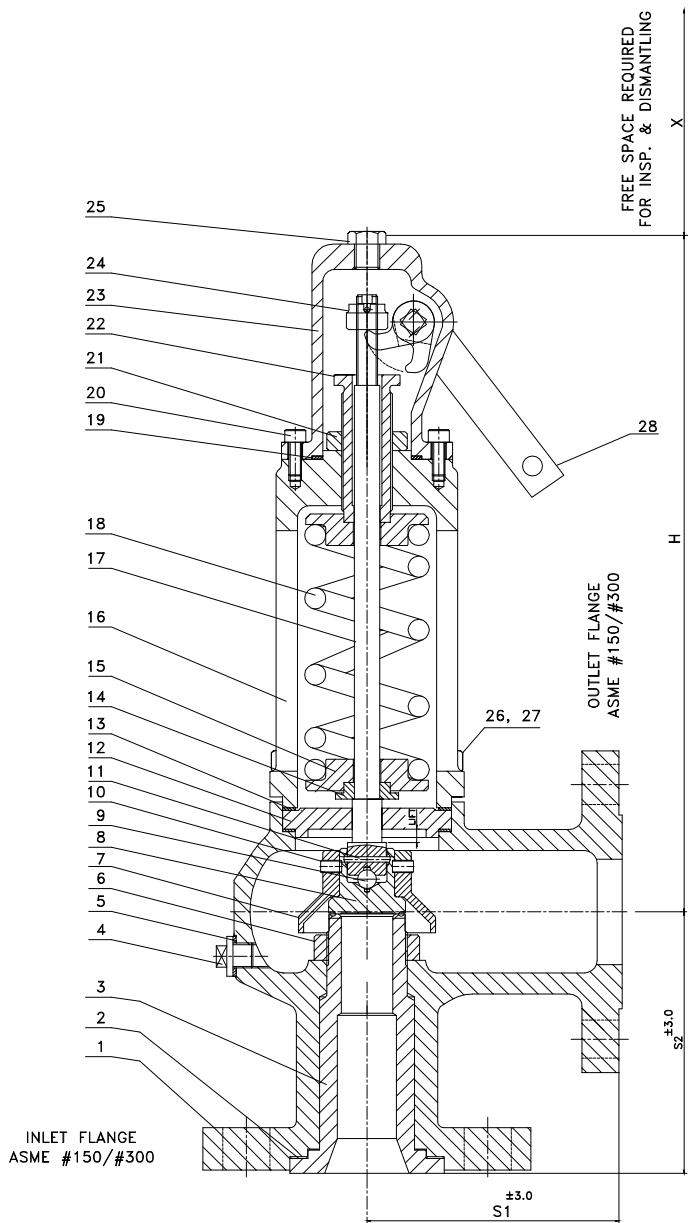

Figure 1: Forbes Marshall Full Lift Safety Valve
Dimensions: (approx.) in mm (Refer to Figure 1)
4. Product Working Principle : (Refer to Figure 1)